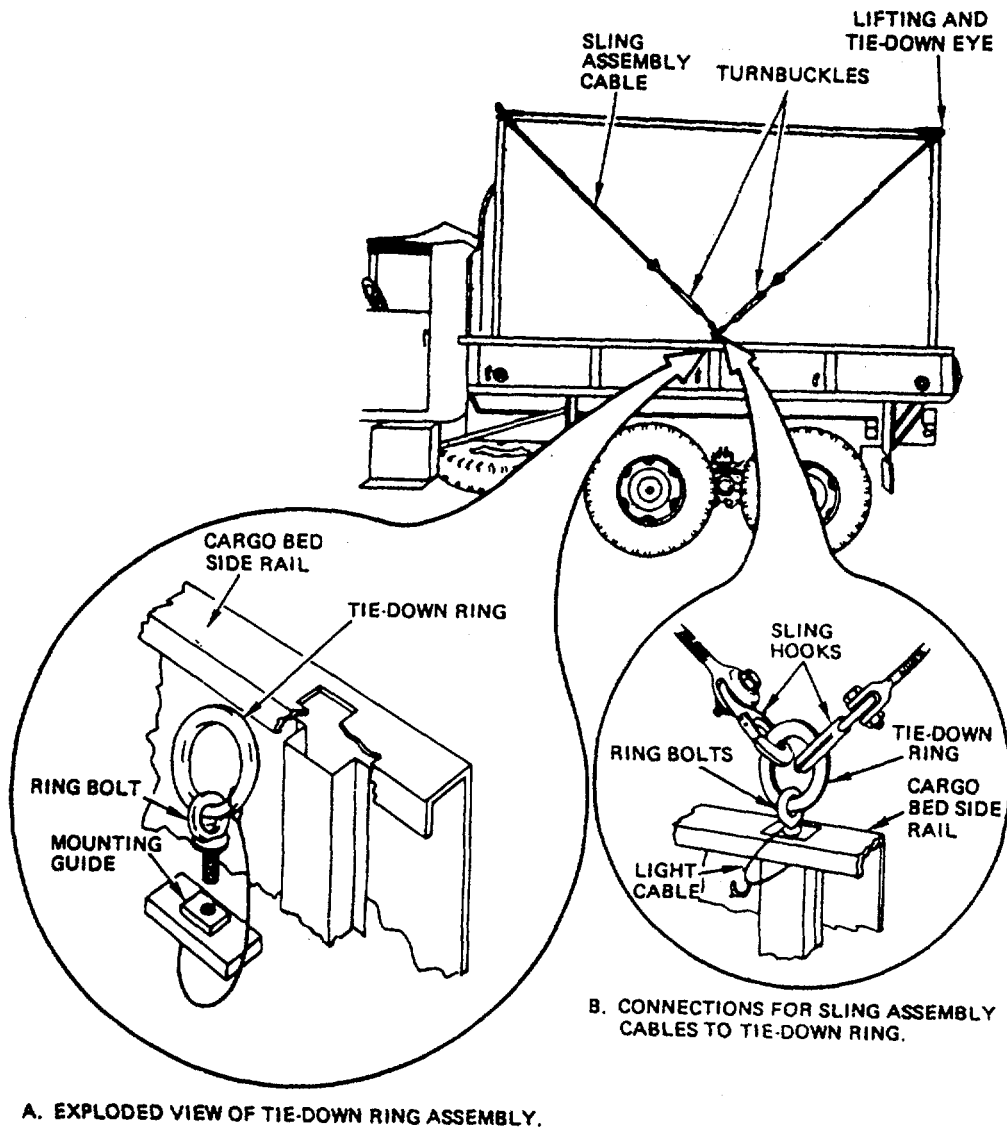

Figure 2-16. Securing Shelter
(6) Position truck under shelter and slowly lower it onto truck using towing eye rope to help guide it into position.
(7) Remove lifting ring from lifting hook., Disassemble lifting ring and sling hooks. Remove sling center hooks from the lifting eyes. Remove rope from rear towing eyes.
d. Securing Shelter. (See figure 2-16.)
(1) Install tiedown ring assembly above the center support on the cargo bed siderail of the truck.
(2) Use the hook at the farthest end from turnbuckle and hook each end of the sling assemblies to a tiedown eye of the shelter.
(3) Secure sling hooks to tiedown ring.